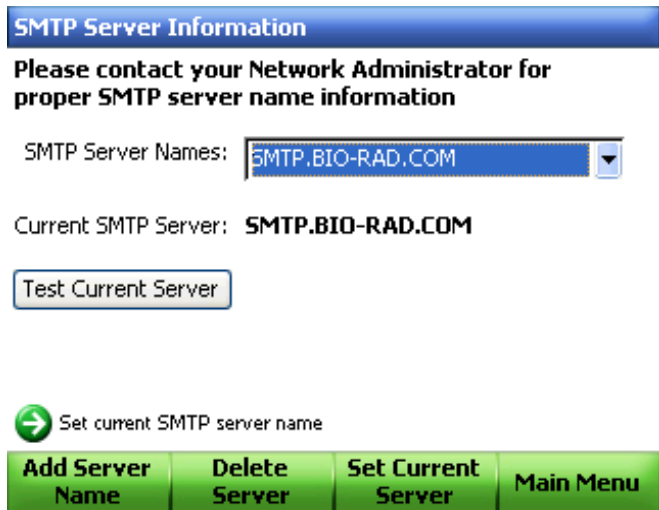

Figure 28. Test the current server.
11. Use the arrow keys to select **Test Current Server** and press **ENTER** (Figure 28).